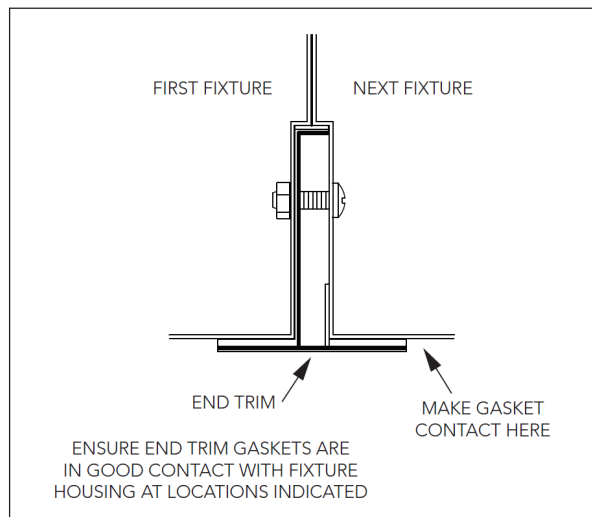

Figure 10
9. After all fixtures in the row have been installed, insert an end trim between the fixture joints so they are snug against the fixtures as shown in Figure 10. Fasten the trim piece to the fixtures by inserting the supplied bolt through the endcaps and end trim as shown and tightening the nut.